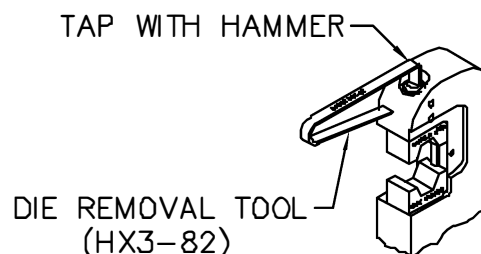

FIG. 2
1. With crimp tool handle open, place die removal tool against end of knockout pin and tap gently with small hammer (See Figure 2). The die will be released from the front die holder. It can now be removed by hand.